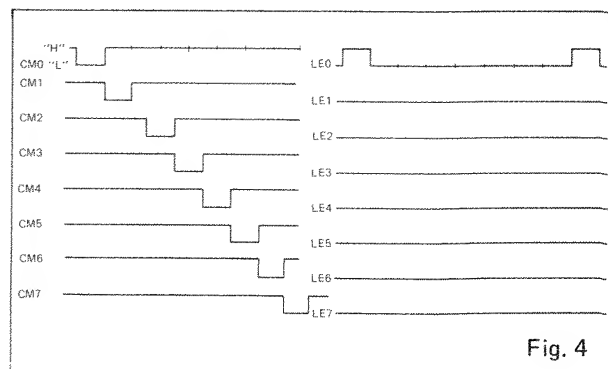

Fig. 4
⑦-1 The contents of bits 0 ~ 2 (D0 ~ D2 IC57) of the data written in address No. 50 of IC57 are decoded by IC60 and obtained in negative logic at CM0 ~ CM7. The data written in address No. 60 of IC56, on the other hand, is obtained at LE0 ~ LE7.
⑦-2 Waveforms as shown in Figure 4 should be obtained.
4. Waveforms as illustrated in Figure 4 should be obtained when $\square$ and NOISE are set to OFF and 10 respectively, with controls set to each specified position in item A-3.